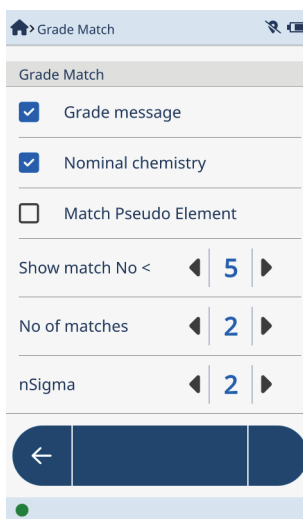

Figure 2-57 Grade Match section of the Grade Match screen
- **Grade Match** (see Figure 2-57 on page 73), where you can do the following: